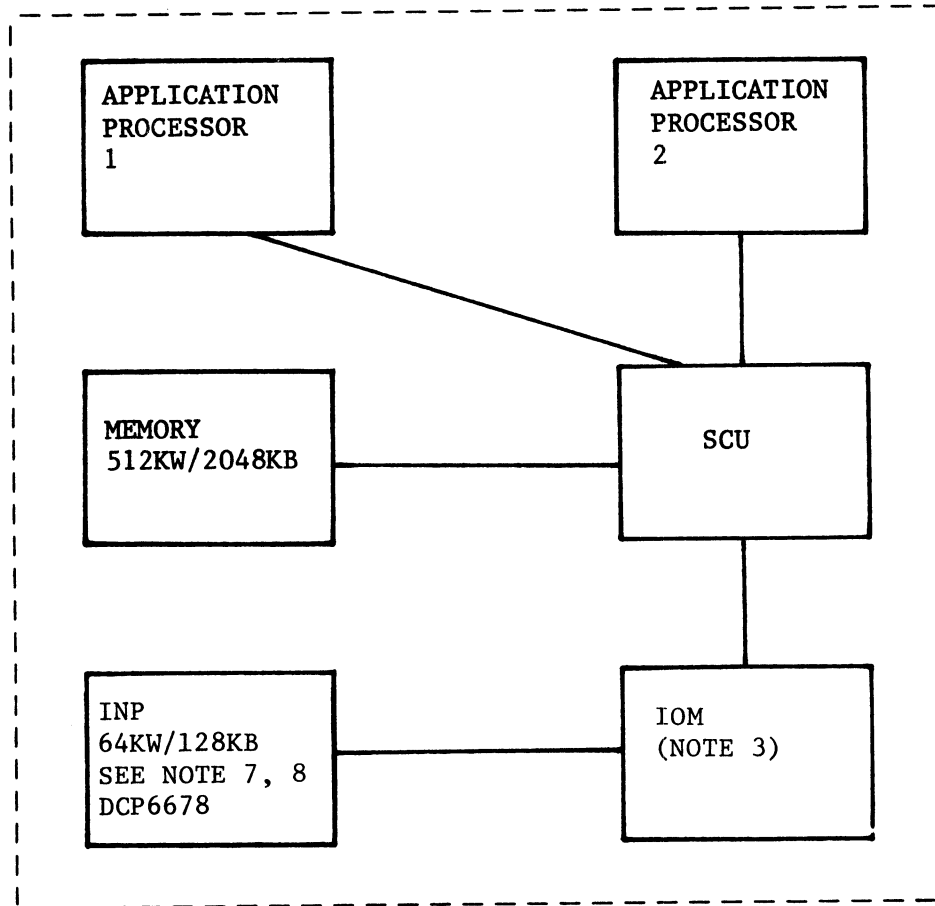

Figure 3-1. Base DPS CPS8802
A. Base Mainframe Configurator Tables (See Tables 3-1 through 3-3 and Figures 3-1 through 3-4)